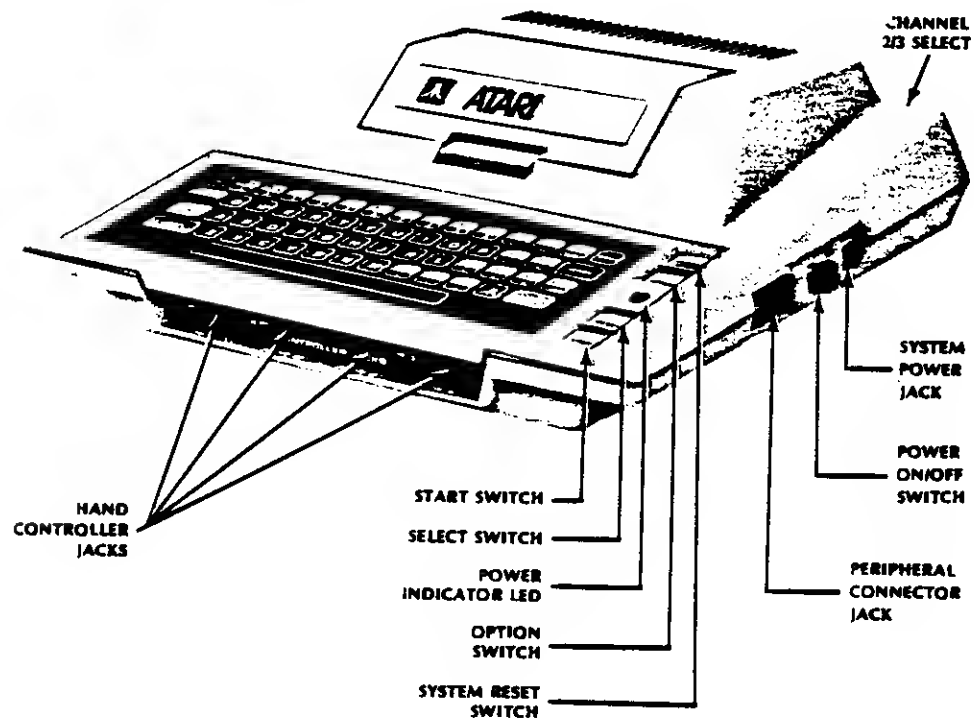
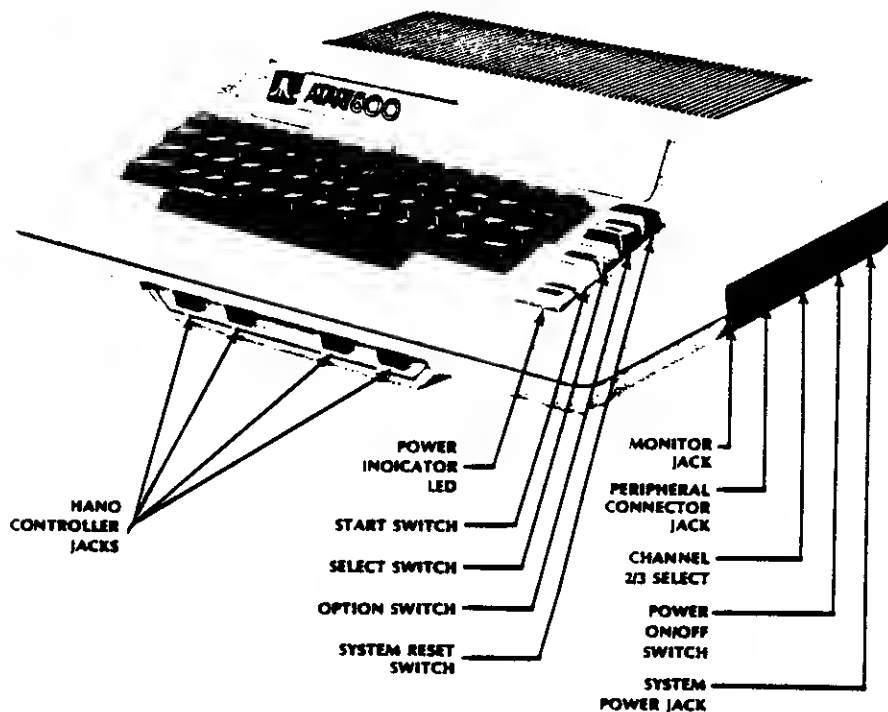

Figure 1-1. ATARI 400 Home Computer Console
Figure 1-2. ATARI 800 Home Computer Console
The Atari 400 Computer Home Console contains the central processor unit (CPU) and memory in the form of the Operating System (read-only-memory (ROM)) and 8K or 16K of user programmable random access memory (RAM). The console contains the keyboard, cartridge slot, controller jacks, and serial input/output (I/O) port for connecting peripheral devices (see Figure 1-1).
The ATARI 800 Home Computer Console contains the CPU and memory in the form of the Operating System (10K of read-only-memory (ROM)) and 8K to 16K (standard) of user programmable random access memory (RAM); plus two expansion sockets for additional RAM modules (maximum 48K). The console also contains the keyboard, cartridge slots (2), controller jacks and a serial I/O port for connecting peripheral devices (see Figure 1-2).
The right side panel of the Atari 400 Computer Console contains a peripheral jack, power ON/OFF switch, and a power jack. The channel 2/3 switch is located on the back of the console. This switch changes the console transmission frequency to either channel 2 or channel 3 (refer to Figure 1-1).
The right side panel of the Atari 800 Home Console contains a monitor jack, a peripheral jack, a channel 2/3 switch, a power ON/OFF switch, and a power jack (refer to Figure 1-2).
Both Console keyboards provide a full alphanumeric character set, cursor controls, and special purpose keys. The alpha keys when used in conjunction with the Control (CTRL) key become special graphic symbols. To the right of the keyboard is the power ON light and four special control keys (refer to Figure 1-1 and Figure 1-2).